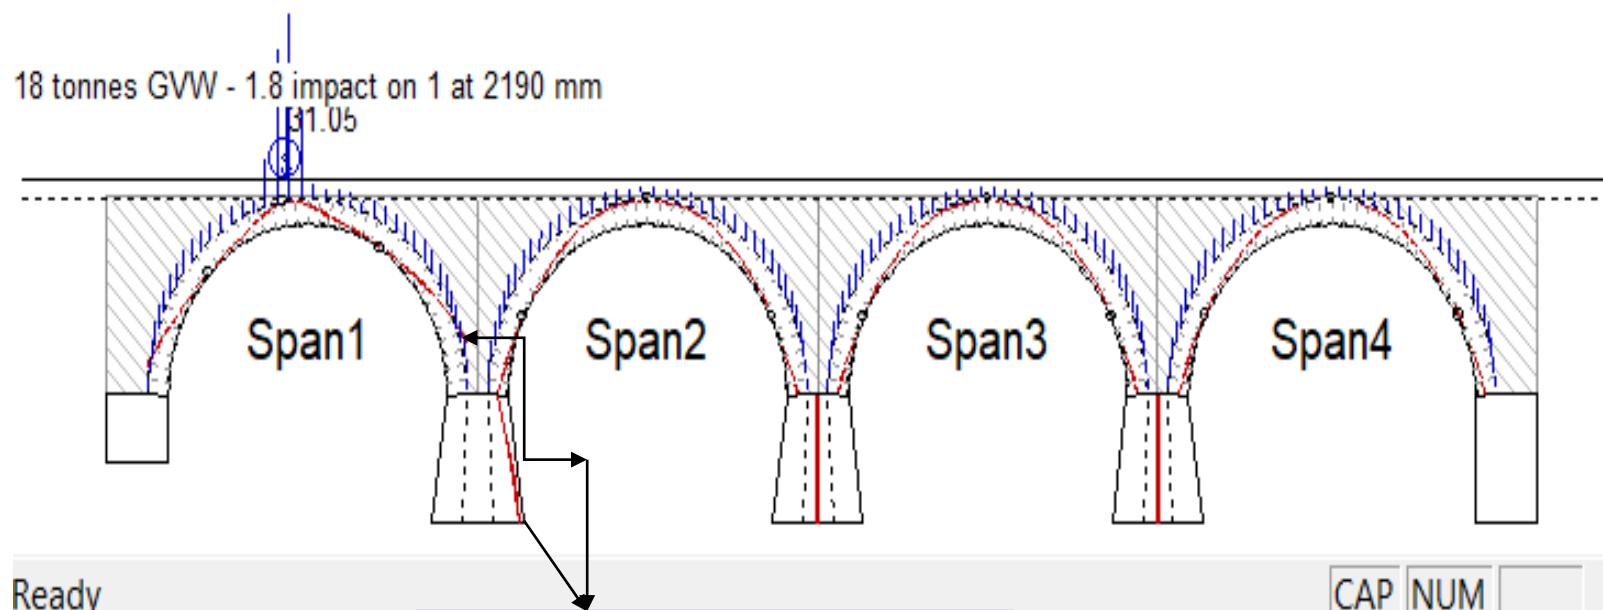

Figure 1:
- Figure 1: With full height masonry, there is no possibility of a hinge forming at the extrados, because the masonry behind that point cannot compress or move out of the way. The only form of yield that could occur here is shear between the ring and the backing masonry. In a structure like this, there is really no possibility of a 4 bar mechanism forming.
The corresponding results for figure 1 look like this: